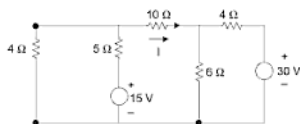

Fig. A1-29
- (c) Using nodal analysis, find the current I through $10\ \Omega$ resistor in Fig. A1-29.